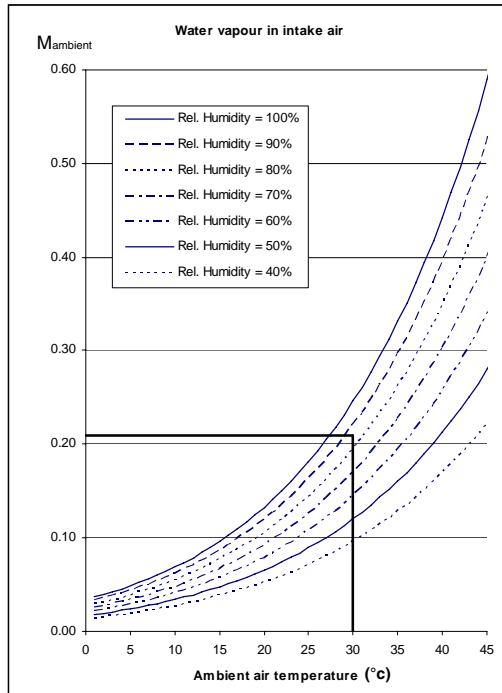

Figure 1
The amount of condensate from the water mist catcher(s) can be estimated based on the below listed measurements and figure 1 and 2.
1. The amount of water vapour in the intake air ( $M_{\text{ambient}}$ ) is found in figure 1 based on measurements of ambient air temperature and relative humidity.
The sea water temperature may alternatively be used in figure 1 instead of the ambient air temperature and relative humidity. The 100% relative humidity curve applies, if the sea water temperature is used.
- 1)  $M_{\text{ambient}} = 0.21 \text{ kg/kWh}$  found from figure 1 (as outlined)